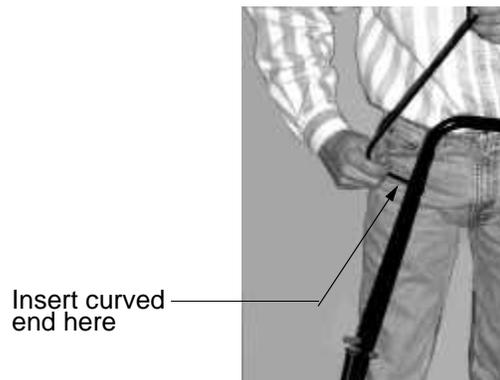

FIGURE 8
- Insert the curved end of the blade control handle into the right hole. See Figure 8.